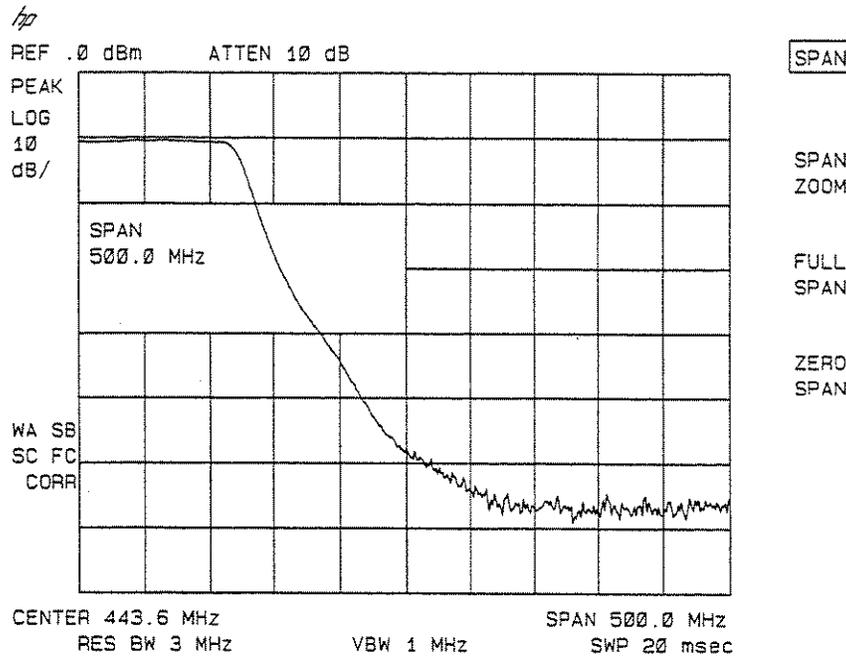

Figure 2-38. Spectrum Analyzer Settings According to the Measurement Requirement
- Since we are only interested in the rejection of the low-pass filter, tune the spectrum analyzer's center frequency so that the rolloff of the filter comprises the majority of the trace on the display (see Figure 2-38).